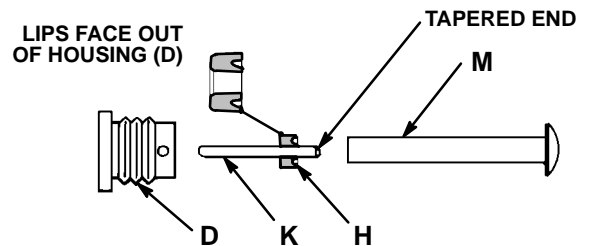

Fig 8
8. Grease the needle (K) and packing (H). Insert the tapered end of the needle into the assembly tool (M) and press the lips of the packing over the end of the tool. See Fig 8.
9. Guide the tapered end of the needle into the assembly tool (M) and press the lips of the packing over the end of the tool. See Fig 8.
10. Grease the free end of the needle. Guide the tool (M) into the fluid housing until the needle protrudes through the top of the housing. Lightly tap the tool end until you hear the packing bottom in the housing. Remove the tool with pliers. See Fig 8.